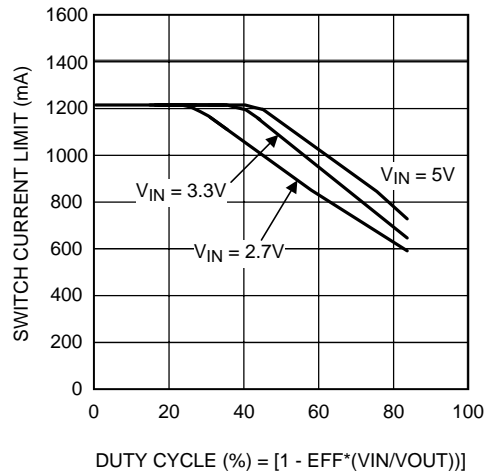

Figure 15. Switch Current Limit vs Duty Cycle
- (1) Switch current limit is dependent on duty cycle. Limits shown are for duty cycles $\leq 50\%$. See Figure 15 in Application Information – MAXIMUM SWITCH CURRENT section.
The maximum FET switch current available before the current limiter cuts in is dependent on duty cycle of the application. This is illustrated in Figure 15 below which shows typical values of switch current as a function of effective (actual) duty cycle: